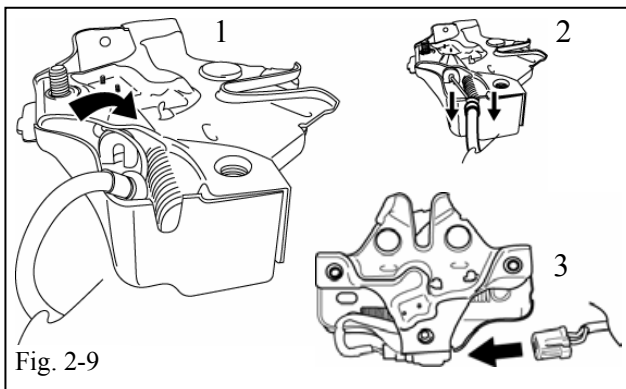
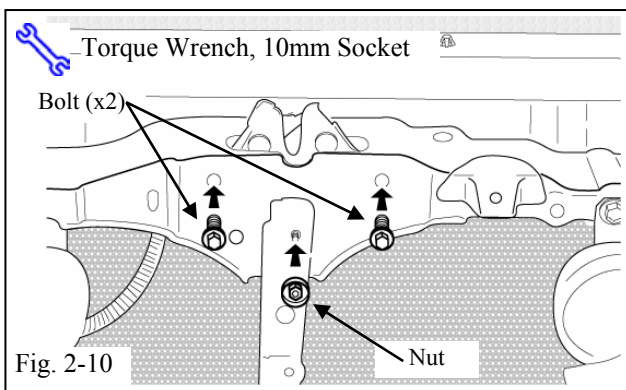

Fig. 2-9
Fig. 2-10
- (k) Connect the V4 Hood Latch to the Vehicle Hood Latch Cable. (Fig. 2-9)
- (1) Use the Braided Cable to guide the Ball into the V4 Hood Latch Lever.
- (2) Affix the Cables Shielding to the V4 Hood Latch Case by pressing it down into the Notch in the Case.
- (l) Connect the Black 2P Hood Switch Pre-wire to the V4 Hood Latch. (Fig. 2-9)
- (1) Verify that the connector is secure.
- (m) Install the V4 Hood Latch. (Fig. 2-10)
- (1) Tighten the Nut and Bolts to 71 in•lbf ± 25. (8.02 n•m ± 2.82)
- (2) Replace the Nut Cover with 1 Nut Cover supplied in the kit.